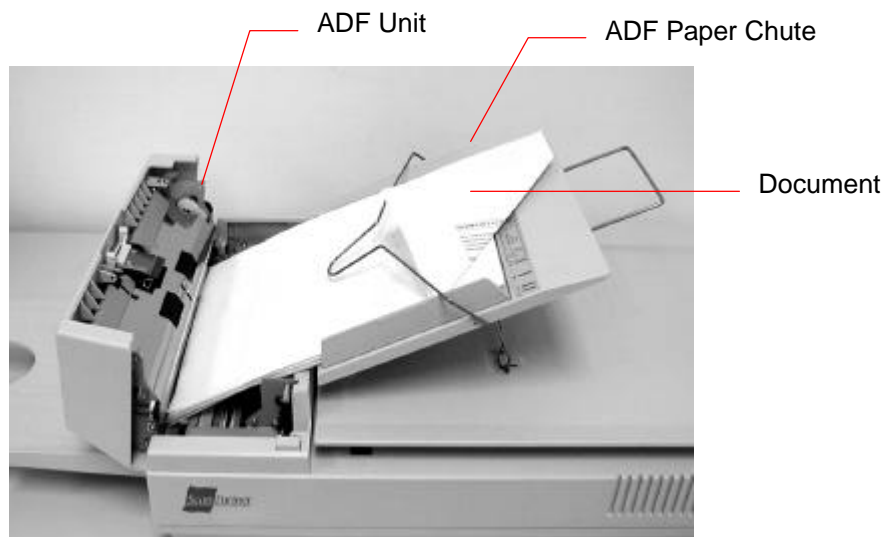

Figure 4-2 ADF Paper Jam - Removing the Paper
- ii). Open the ADF cover to the full open position as shown in Figure 4-2.